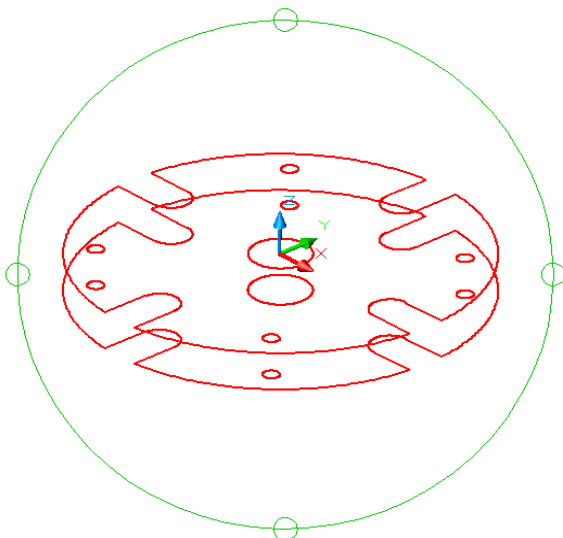

Figure Step 7
Step 7 Using the 3DORBIT command, rotate the model slightly until it appears similar to Figure Step 7.